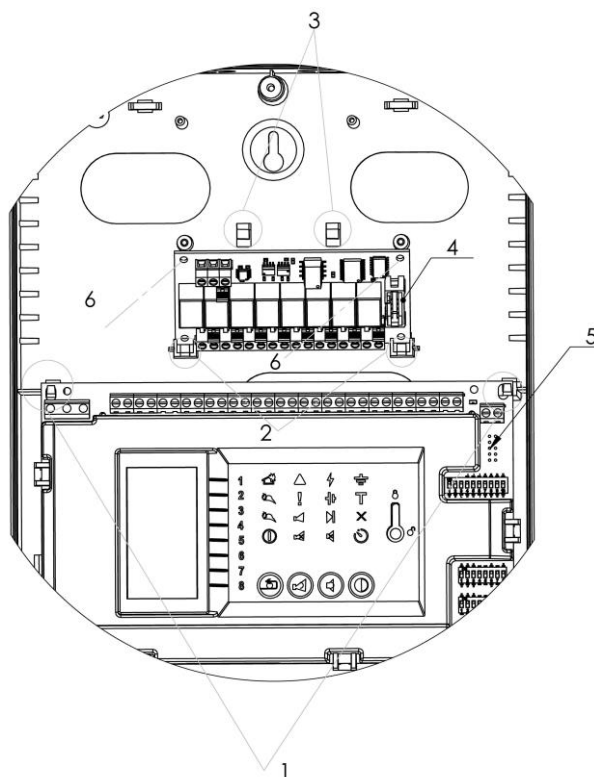

Fig.5
2.5. The main interface board in FCP is mounted to the bottom holders, as illustrated on fig.5, pos.1.
2.6. The bottom side of the extension module is mounted on the holders (fig.5, pos.2);
The top side of the extension module is pushed (fig.5 pos.6) until the top-side holders click to fix it (fig.5, pos.3);
2.7. Connect the ribbon cable to the module, fig.5 pos.4 and to the connector located on the FS4000 main PCB, fig.5 pos.5. The connectors are provided with a slot, determining the direction of the connection. network line